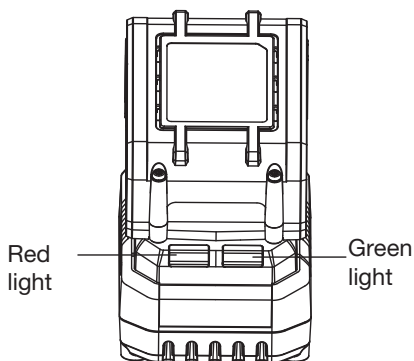

Figure 3
3. CHARGING THE BATTERY PACK (NOT SUPPLIED) (SEE FIG. 3)